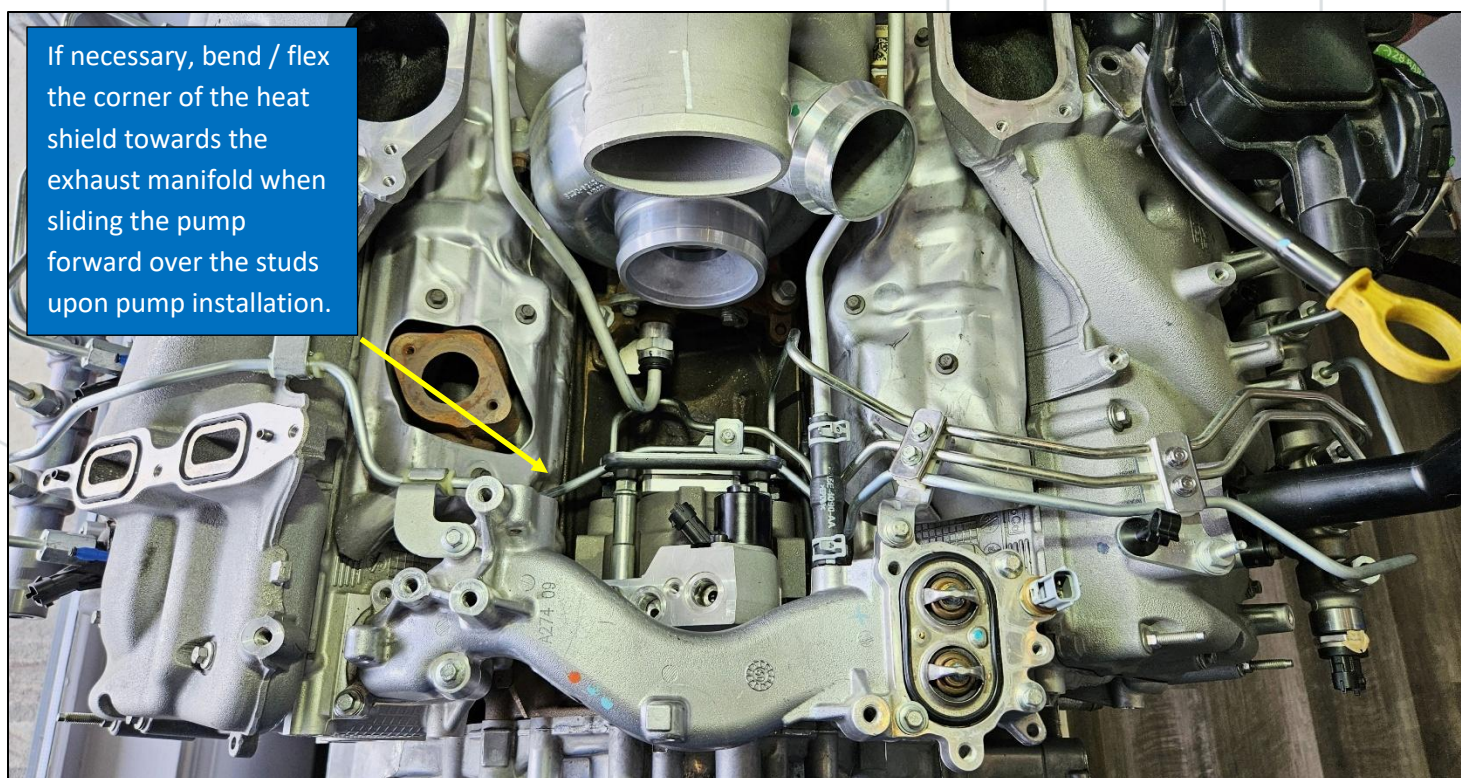

Figure 25: DCR Pump & High-Pressure Lines Installed
- b. If the pump is contacting the passenger side heat shield, it may be necessary to bend/flex the heat shield towards the exhaust manifold in order to provide clearance (Figure 25).